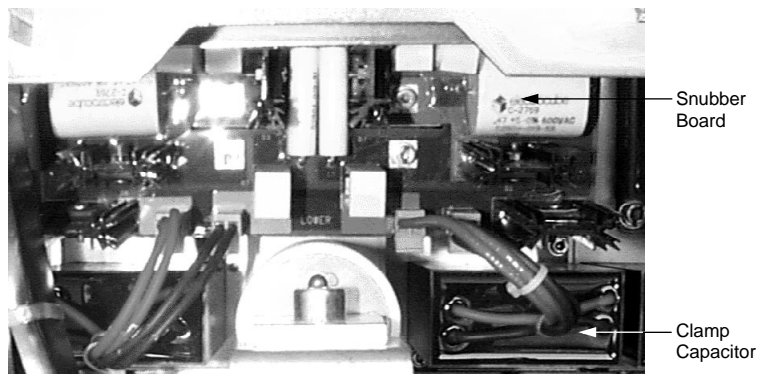

Figure 4.3.27: Inverter Snubber Board
11. Disconnect the four clamp capacitor cables from the upper snubber board being removed (see Figure 4.3.27). Loosen and remove the four hex head screws securing the snubber board to the IGBT module's interconnecting bus and remove the snubber board.
1. Position the snubber board over the IGBT module's interconnecting bus with the four clamp capacitor connection jacks (J1-4) positioned closest to the associated clamp capacitor (see Figure 4.3.27 on page 4.3.33). Secure with four hex head screws. Torque to 18 lb-in (2.0 N•m).